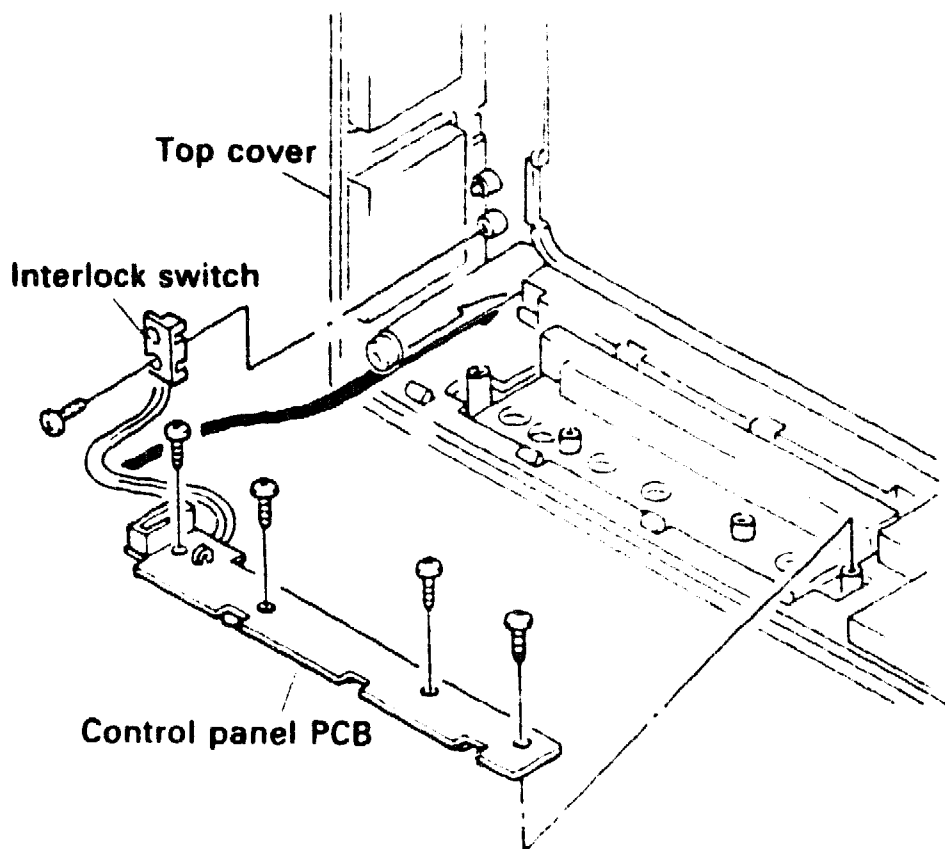

Figure 6-18 Removing the Control Panel PCB
1. Remove the four screws holding the control panel to the top cover (Figure 6-18).